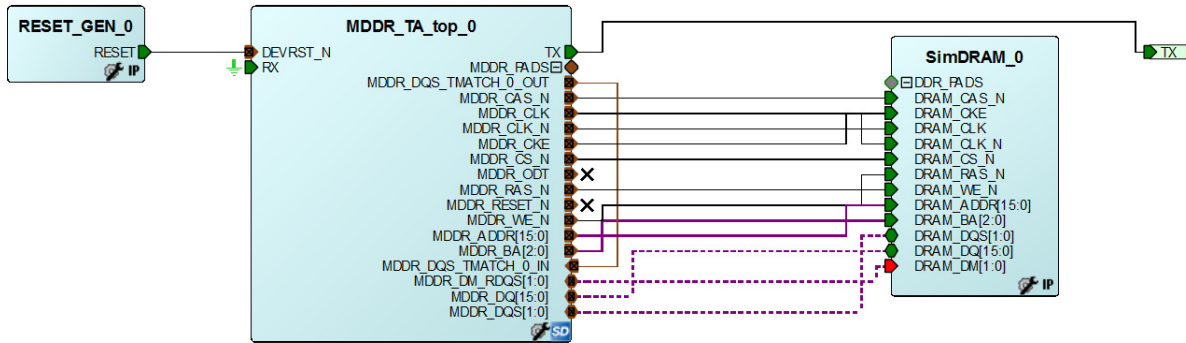

Figure 11 • SmartDesign Testbench for Example Design with Microsemi LPDDR SDRAM VIP
4. Connect the signals, as shown in Figure 11.